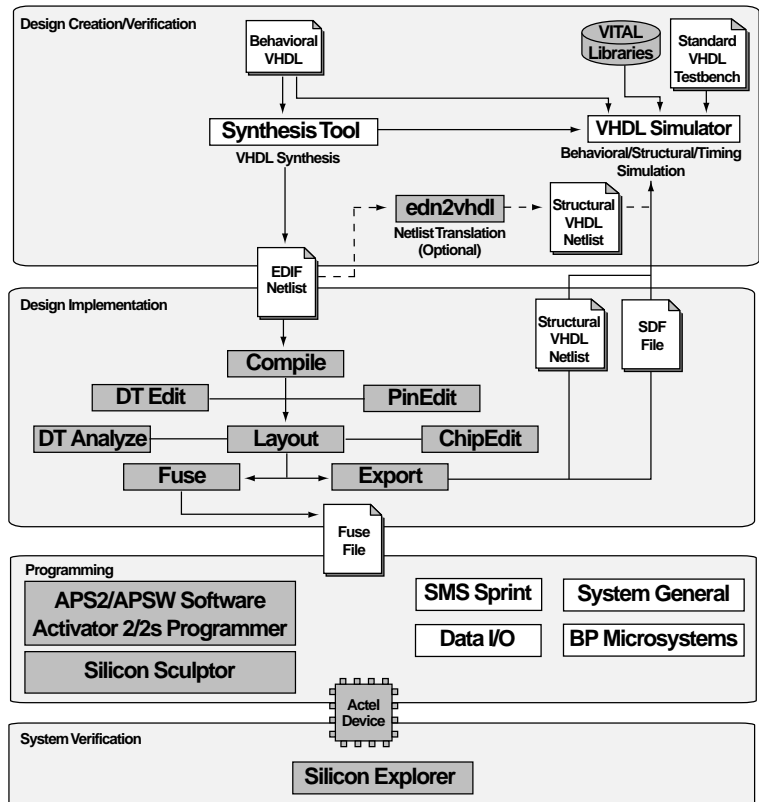

Figure 2-1. Actel-VHDL Design Flow
Figure 2-1 shows the design flow for an Actel FPGA using Designer software and a VITAL compliant VHDL simulator¹.
1. Actel-specific utilities/tools are denoted by the grey boxes in Figure 2-1.